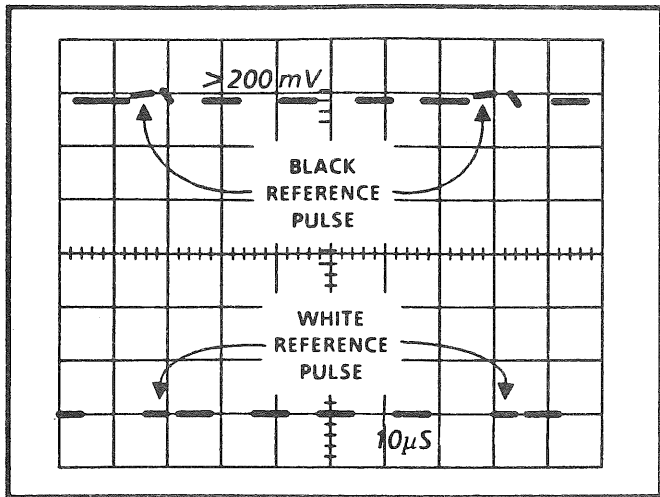

Fig. C-4. Location of 650HR-C black and white reference pulses.
3. Use the Volts/Div Variable control to set the black reference pulse-to-white reference pulse distance to six divisions. See Figure C-4.
4. **ADJUST** - R9238 so the color bar white level is six major and 2.5 minor divisions from the 650HR-C Series CHANNEL 1 black reference. See Figure C-4 for the location of the black and white reference pulses.